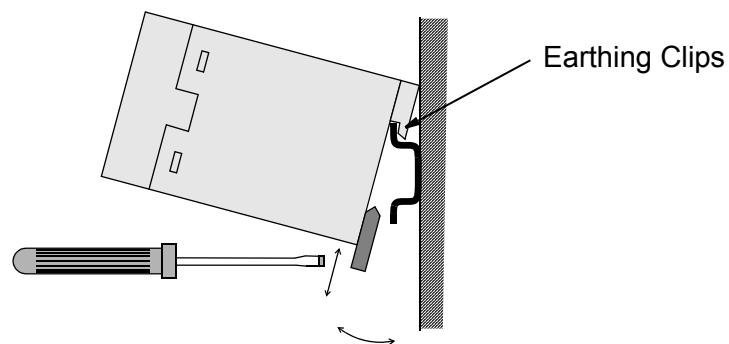

Figure 3-1 Mounting and removing the module.
- Module earth is connected to the mounting rail by means of an earthing clip (see Figure 3-1 below). The mounting rail onto which the option module is to be mounted must be earthed to a noiseless earth. If the rail is not mounted on a properly earthed base, a separate earthing conductor must be used. The conductor must be as short as possible and the cross-sectional area must be 6 mm^2 at least. **Note:** No solid copper conductor may be used (stranded wire allowed only).
3. Push the module onto the rail. The module can be released by pulling the locking spring with a screwdriver (see Figure 3-1).
7. Push the module onto the rail. The module can be released by pulling the locking spring with a screwdriver (see Figure 3-1).